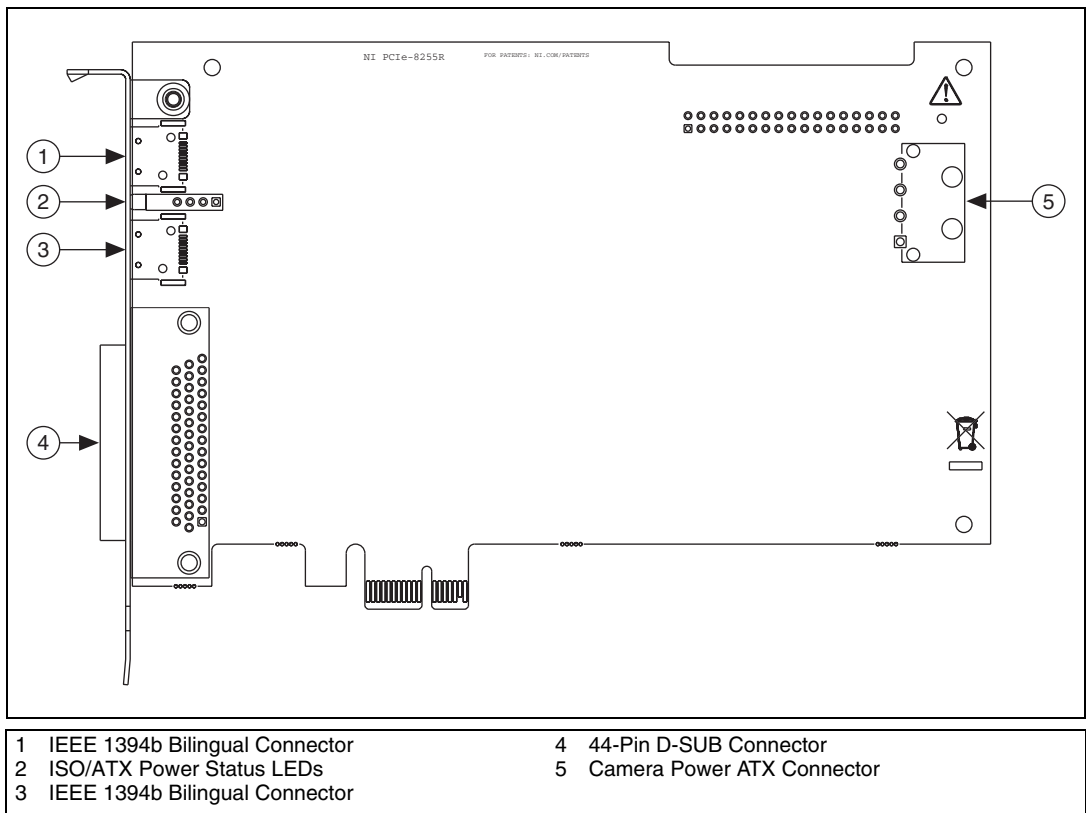

Figure 2. NI 8255R Connectors
11. Connect the IEEE 1394 cable to an IEEE 1394 connector on the NI 8255R front panel. Refer to Figure 2 for the location of the IEEE 1394b bilingual connectors on the NI 8255R. If you are using an IEEE 1394a cable, an IEEE 1394a to IEEE 1394b adapter is required. Alternatively, you can use an IEEE 1394a to IEEE 1394b cable.
Refer to Figure 2 for information about placement of the connectors on the NI 8255R.